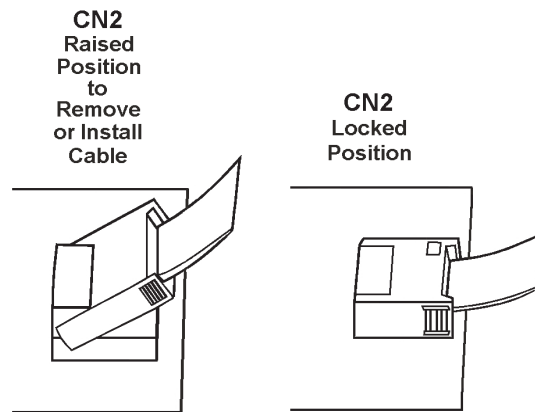

Figure 13: Removing/Installing the Keypad Ribbon Cable
4. To remove the Keypad Cable, be sure to position CN2 as shown on the left side of Figure 13, below.